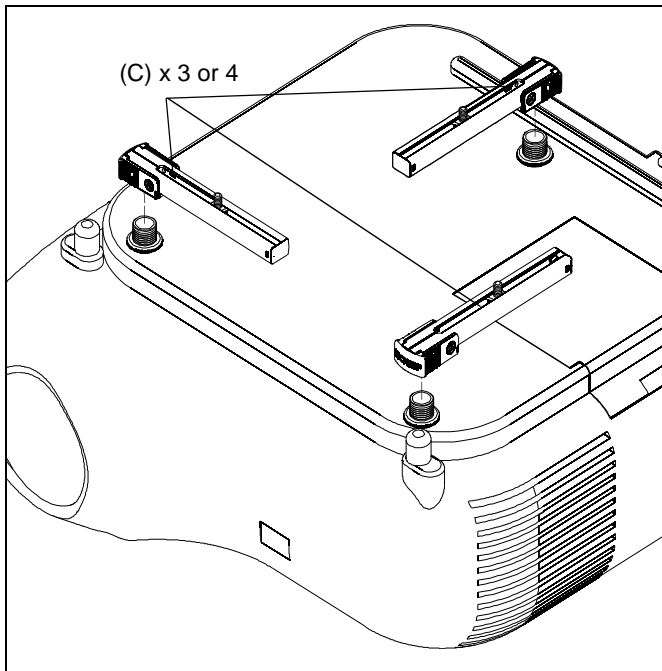

Figure 4
4. Place SSBU/SSMU legs (C) over screw adapters and height-adjustment nuts. (See Figure 4)